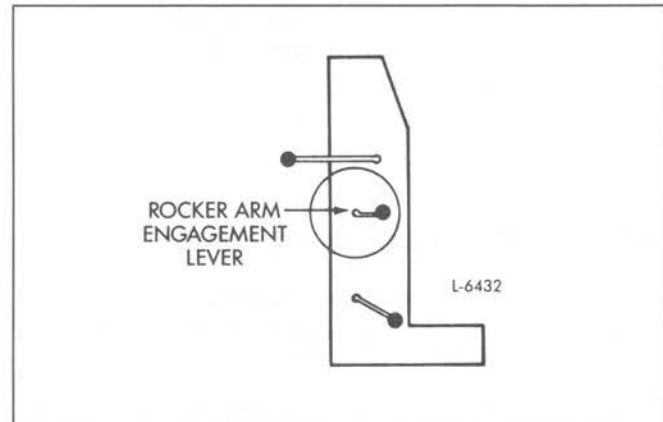

Fig. 4 – Position of Rocker Arm Engagement Lever
3. Move the rocker arm engagement lever to the forward detent (Fig. 4).